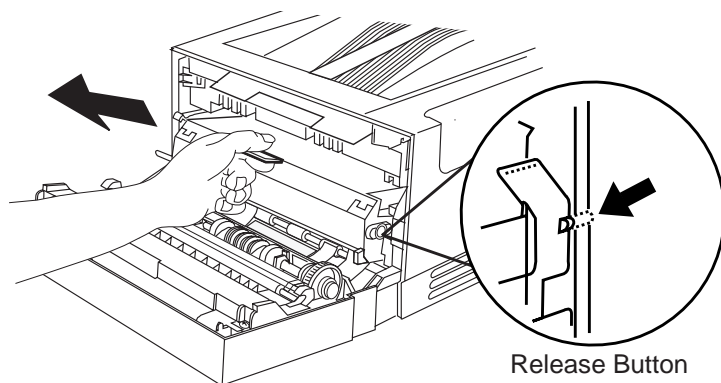

Fig. 6.3 *Remove EP-L Cartridge*
3. Remove the EP-L cartridge by pulling on the center tab (fig. 6.3).
If the EP-L cartridge does not release easily, push the release button to the right of the inserted cartridge (fig. 6.3). Discard the used cartridge.